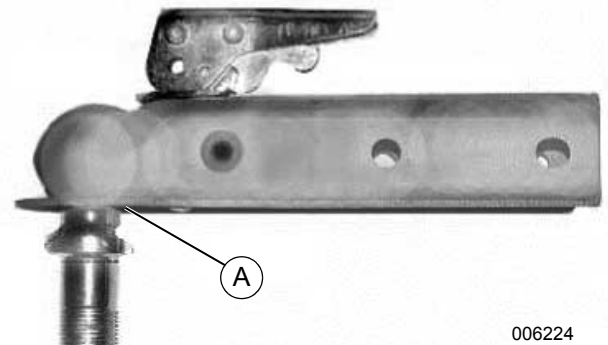

Figure 4-15. Ball Receiver Adjustment Check
1. See Figure 4-15. Place 2" ball in receiver socket and close latch assembly. Verify locking trigger is properly engaged in detent.